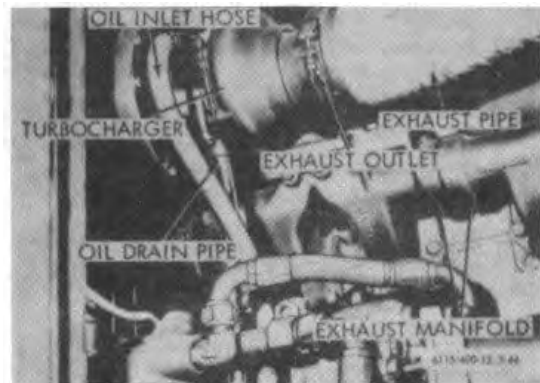

Figure 3-44. Turbocharger, removal and installation.
- (1) Allow the turbocharger (fig. 3-44) to cool if the engine has been run. Remove the engine hood.
- (2) Remove the air cleaner to turbocharger hose.
- (3) Remove exhaust outlet and diffuser.
- (4) Remove oil inlet hose.
- (5) Disconnect and remove the oil drain line.
- (6) Disconnect the turbocharger to intake manifold pipe.
- (7) Remove stud nuts and washers attaching turbocharger to exhaust manifold.
- (8) Remove the turbocharger assembly.